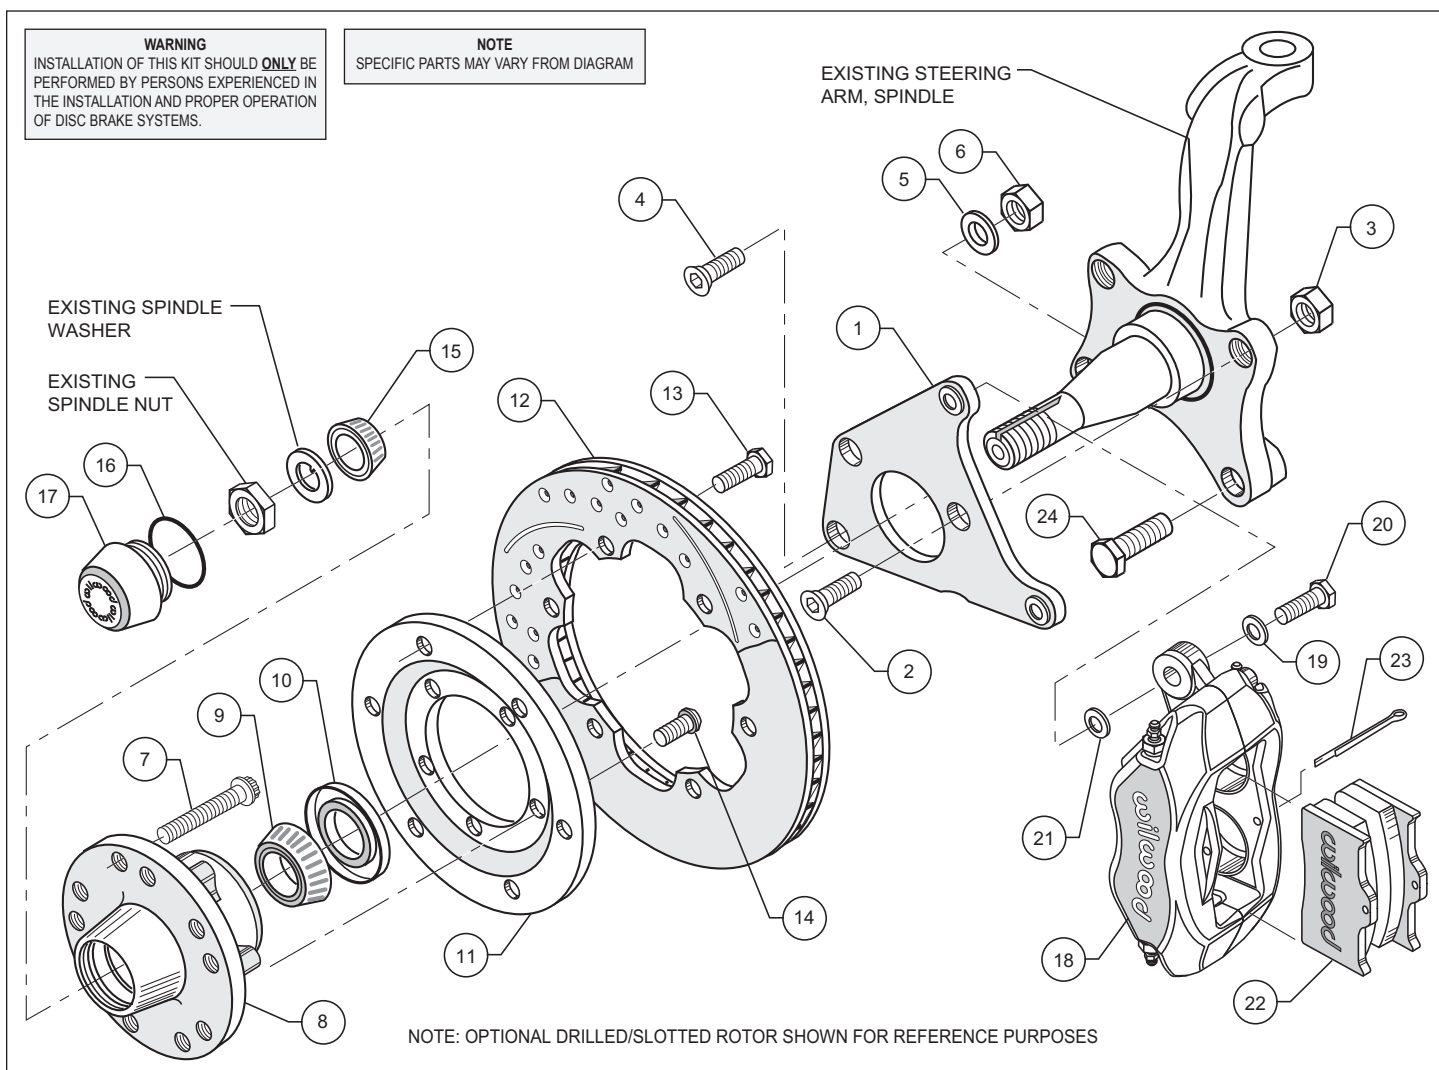
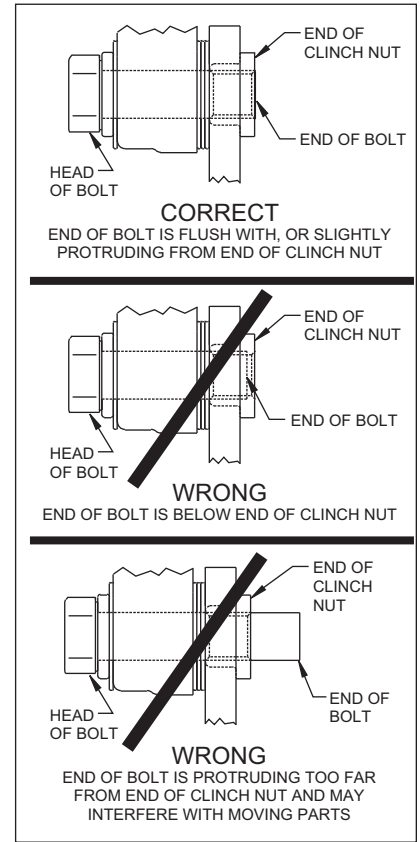

Figure 1. Typical Configuration, Drum Spindle
Figure 4.
- Mount the adapter/rotor assembly (11/12) to the hub (8) using bolts (14) (finger tight), as shown in Figure 1. Using an alternating sequence, remove bolts one at a time, apply red *Loctite*® 271 to the threads, and torque to 55 ft-lb.
- Pack the small outer bearing cone (15) with high temperature disc brake bearing grease. Lightly coat the spindle bearing surfaces with bearing grease. Slide the hub/rotor assembly (8 and 12) with outer bearing cone (15) onto the spindle. Secure using existing spindle washer, existing adjusting nut and nut locking device (adjust bearings per original equipment manufacturer specifications).
- Install the dust cap (17) onto the hub (8). Friction created by the o-ring (16) on the dust cap (17) keeps it from unscrewing. The O.D. of the existing spindle washer may be larger than the I.D. of the dust cap (17) not allowing it to seat against the hub face. Some grinding of the washer O.D. may be necessary to clear the I.D. of the dust cap.
- NOTE:** Please reference the caution statement at the beginning of the assembly instructions. Mount the caliper (18) onto the caliper mounting bracket (1) using two bolts (20) and two washers (19). View the rotor (12) through the top of the caliper (18). The rotor (12) should be aligned in the center of the caliper (18). If not, loosen the two bolts (20) and adjust the caliper (18) by using 0.032 inch thick shim washers (21). The shim washers (21) should be placed between the caliper (18) and the caliper mounting bracket (1). Finger tighten and recheck alignment. Add as many shim washers (21) as necessary to achieve the correct alignment. **NOTE:** The end of the bolt must be flush with or slightly protruding from the head of the clinch nut. See Figure 4. Place spare shims (21) between washer and caliper mounting ear to achieve the proper mounting fastener configuration. Always use the same amount of shims on both the top and bottom caliper mounting bolts (20). Loosen the two bolts (20) and apply red *Loctite*® 271 to bolt threads (20) and torque to 40 ft-lb. Safety wire the two bolts (20).